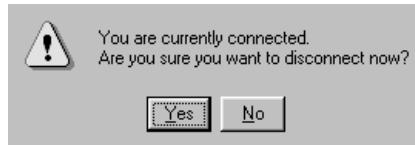

Figure 10: Disconnect Now dialog box
11. Choose **File > Exit** to close the HyperTerminal application. A message box displays (Figure 10).